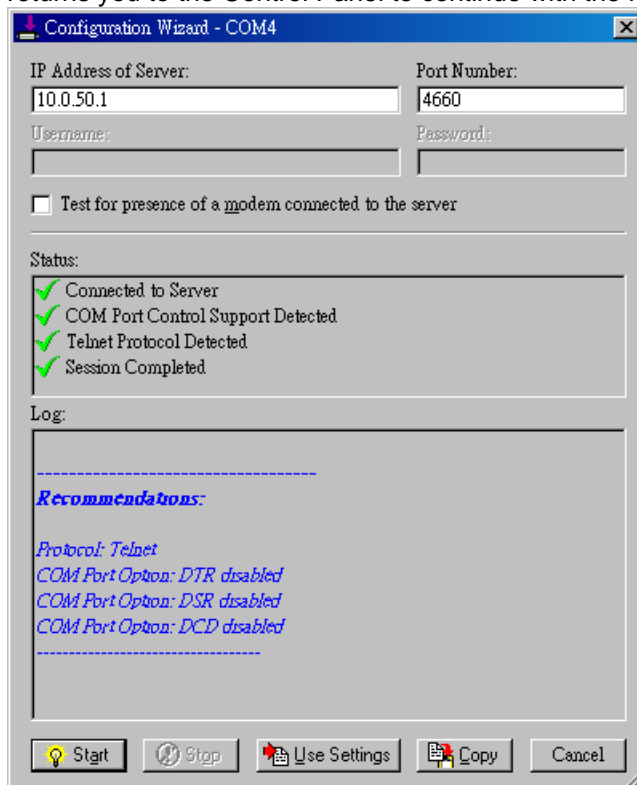

Figure 4.5 Configuration Wizard
5. Click the **Configuration Wizard** button and then click the **Start** button that appears in the wizard window. This important step verifies that the Virtual COM Redirector can communicate with the serial server using the settings you have provided. If the **Log** display does not show errors, click the **Use Settings** button in the wizard, which makes the recommended settings effective and returns you to the Control Panel to continue with the following steps.(ref Figure 4.5)